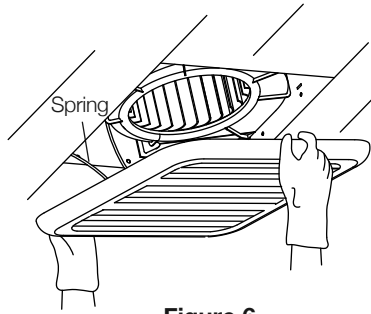

Figure 6
1. Remove the screen by squeezing the spring and pulling down (Fig. 6).